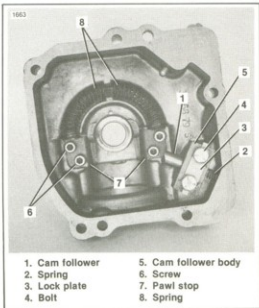

Figure 7-17. Inside The Shifter Cover
- See Figure 7-17. Remove the cam follower (1) and spring (2). Bend the lock plate (3) tabs away from the bolts (4). Remove the bolts and cam follower body (5).
- See Figure 7-17. Lubricate the springs (8) with a multi-purpose grease. Install the screws (6), pawl stops (7) and springs (8).